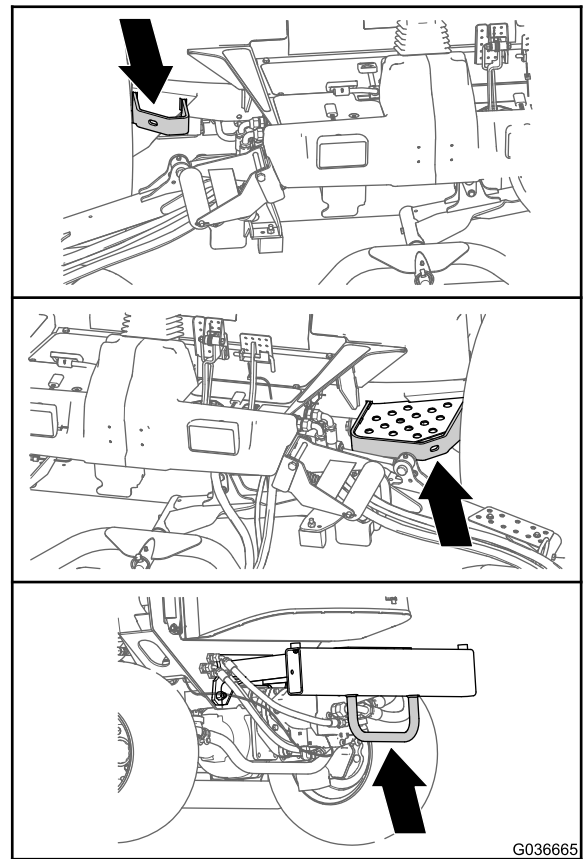

Figure 33
- On each side of the frame by the operator's platform (Figure 33)
- On the rear bumper (Figure 33)